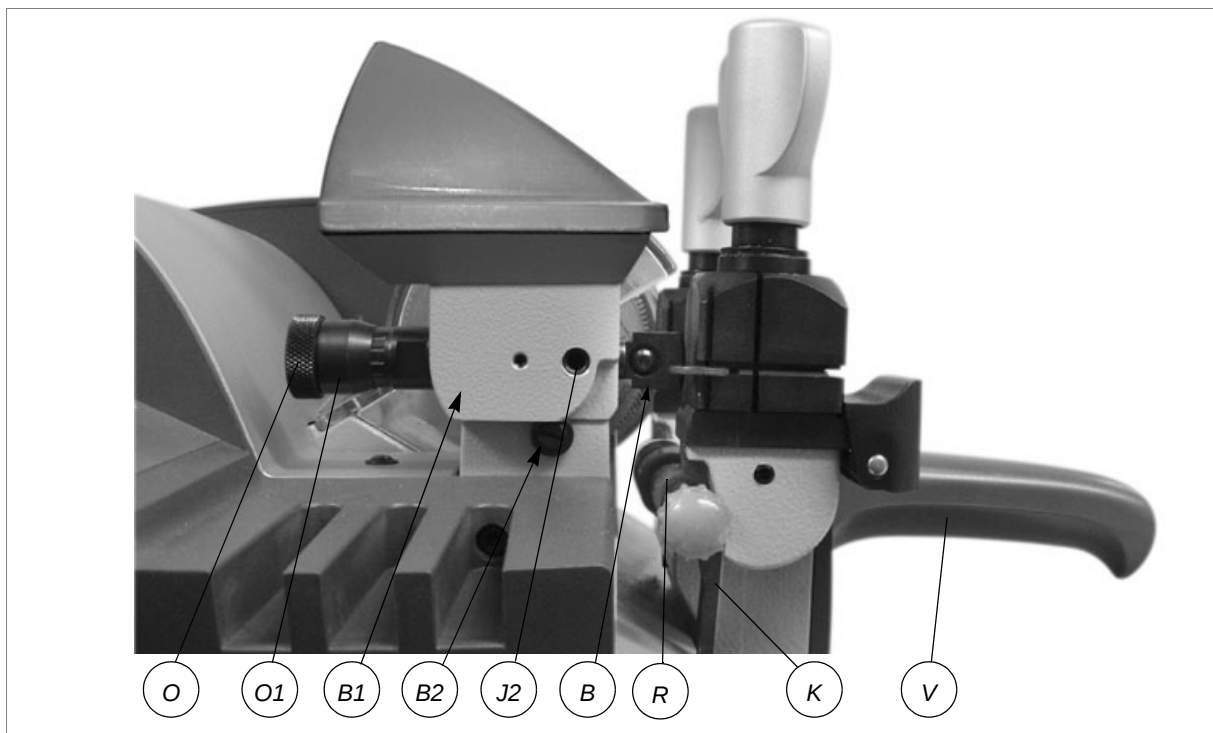

Fig. 19
- a) loosen the screw (J2) locking the tracer point (fig.19, pag.18).
- b) turn the knob (O) clockwise to move the tracer point forwards.
- c) turn the knob (O) anticlockwise to move the tracer point backwards.
- a) with one hand hold still the knurled part of the knob (O).
- b) move the tracer point support (B1) sideways by loosening or tightening the screw (B2) (fig.19, pag.18) until ON appears.
- 6) Lower the carriage by means of the handle (V) (it will engage automatically).
- a) loosen the screw locking the tracer point (J2) (fig. 19, page 18).
- c) turn the knob (O) anticlockwise to move the tracer point backwards (each mark on the graduated drum equals a variation of 0.05 mm).
- 1) Turn off the master switch (C) to operate safely and prevent activation of the cutting tool.
- 2) Place the adjusting key in the clamps (fig.19) with the notch facing the cutting tool and tracer point and proceed as follows:
- a) ensure that the keys adhere to the clamp and that the callipers (K) are in full contact with the stops.
- b) to take the callipers into contact with the keys, rotate the drum (R) towards you (away from you to return to the idle position).